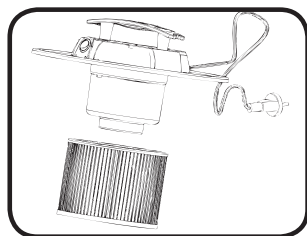

Fig.2: Insert fluted filter
1. Remove the container cover and make sure that the fluted filter is inserted correctly and firmly (see Fig. 2).